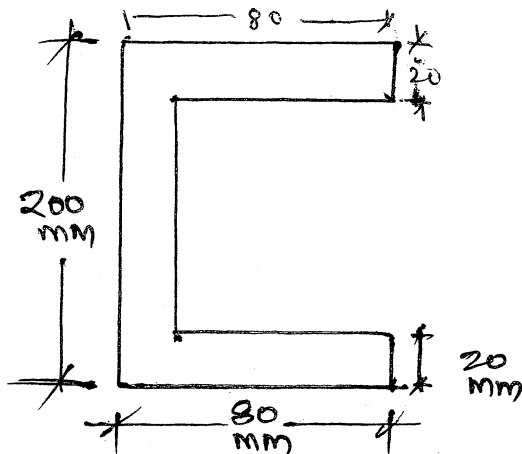

Fig. 4
- a) A channel section is shown in Fig. 4. It carries a shearing force of 150 kN at a particular section. Calculate the ratio of average shear stress to maximum shear stress.